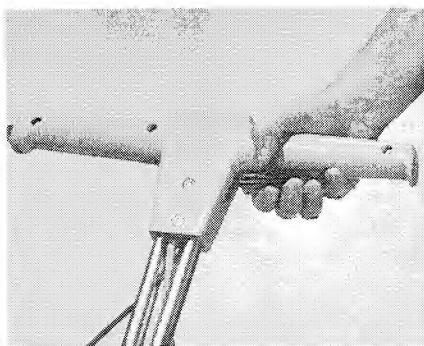
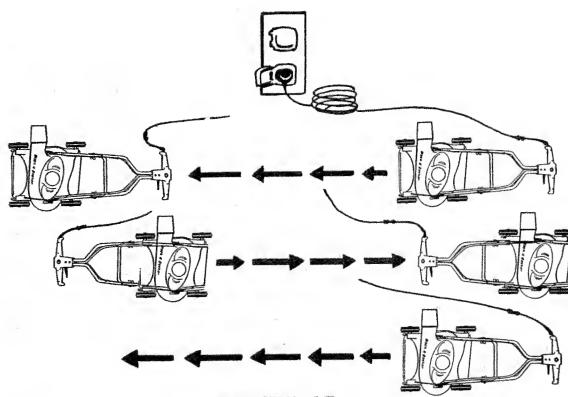

FIGURE 16
FIGURE 15
3. Begin mowing in the area closest to the outlet and mow in a back and forth manner (Figure 15). When you reach the edge of the lawn, do not turn the mower around. Instead, pull the safety latch lever up (Figure 16) and move the handle up and over the mower, as you walk around the side of the mower opposite the discharge opening. After the latch is engaged, you can now push the mower in the opposite direction (Figure 17).